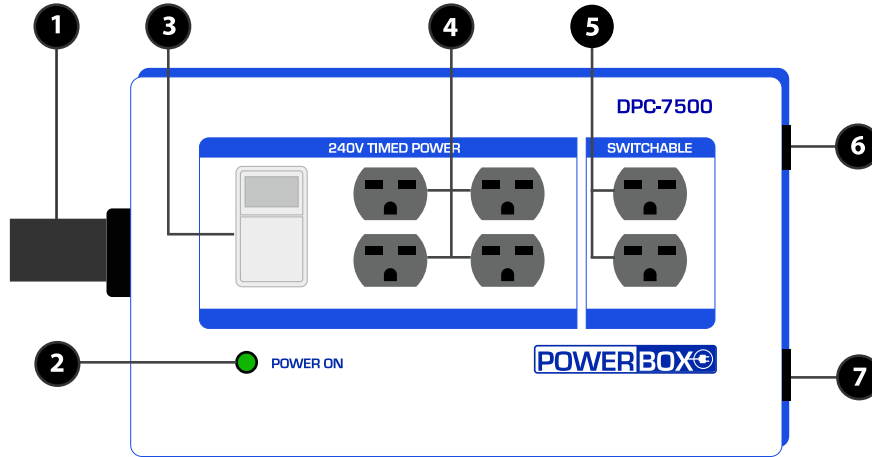

FIGURE 1
2. Set the switch on the right side of the Powerbox (FIGURE 1, #6) to the desired position, "Timed" or "Constant."